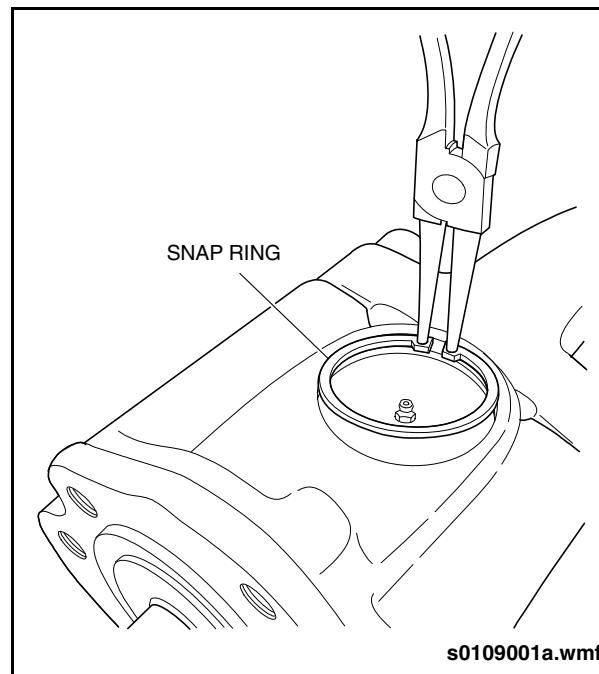

Fig. 1-25: King Pin Snap Ring Removal
14. Remove circlips (snap ring) from upper and lower king pin sealing washers. See "Fig. 1-25: King Pin Snap Ring Removal" on page 24.